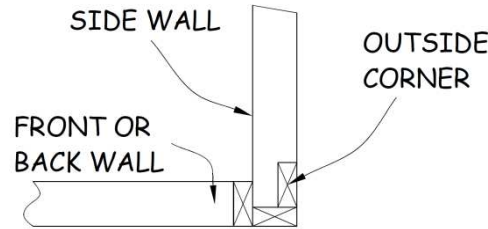

Figure 23-3. Outside L-Corner.
10. At each end of the side walls, lay out an L-corner with two 2x4 studs made up of the normal 2x4 end stud plus an extra 2x4 stud perpendicular to the end stud on the exterior side of the wall (see Figure 23-3). Mark the "L" as "Corner Up" to specify